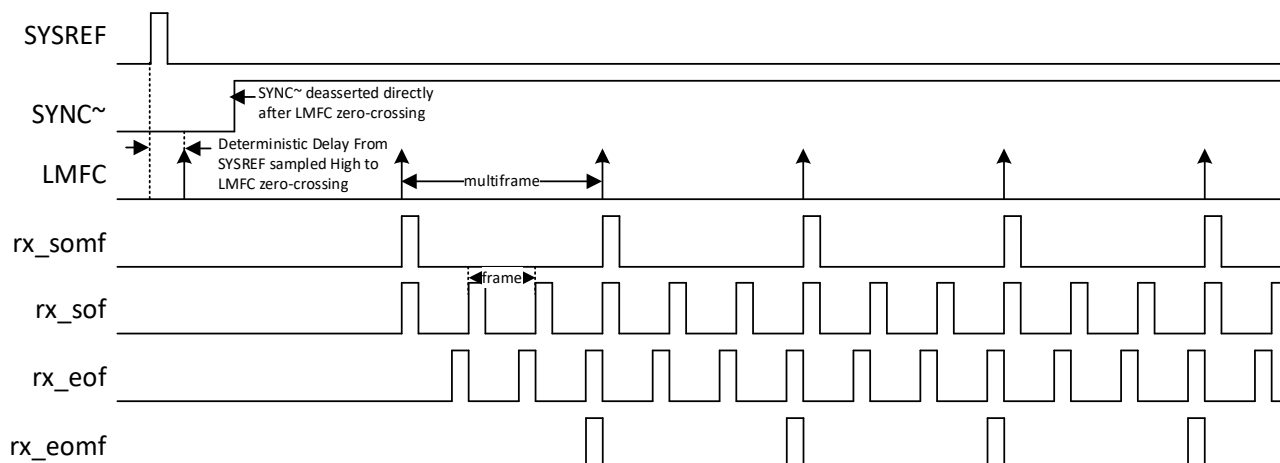

Figure 2.3. Timing Diagram Illustration for LMFC and Rx Frames Interface
Figure 2.3 illustrates the LMFC correlation with Rx data frame. SOF to EOF indicates the number of octets per frame (F) while SOMF to EOMF indicates the number of frames per multiframe (K) and number of octets per multiframe ($F \times K$). SOMF is aligned with the LMFC arrow as illustrated in Figure 2.3.